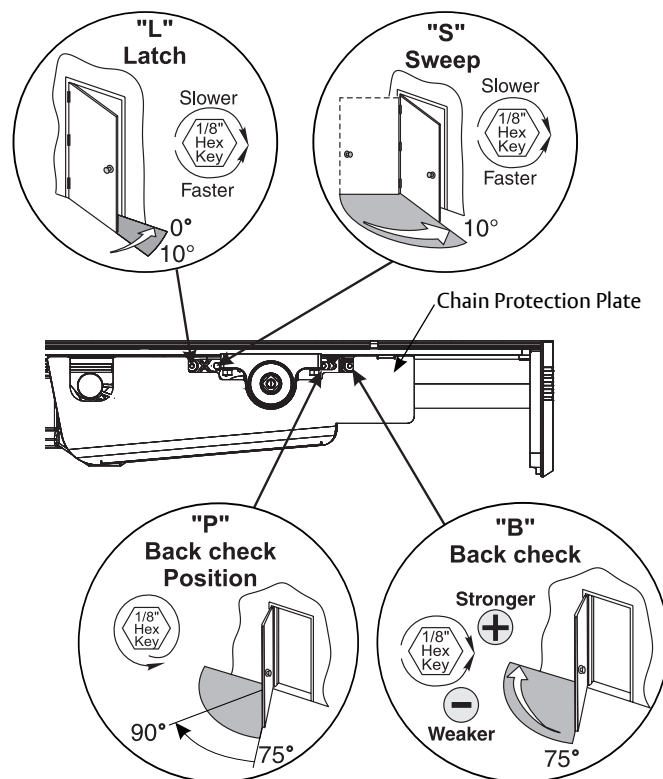

Figure 31 View of Right Door operator from ceiling looking down
- Chain protection plate cutouts allow access to valves. Use hex wrench to make adjustments. (Figure 31)
1. Closing Speed Controls (Figure 31)
2. Opening Cycle (Figure 31)